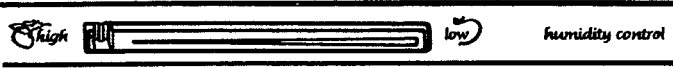

Figure 10.
- Slide control to high humidity setting for leafy vegetables such as lettuce, spinach or cabbage. See Figure 10.
- Slide control to low humidity setting for produce with skins, such as apples, oranges or tomatoes. See Figure 10.